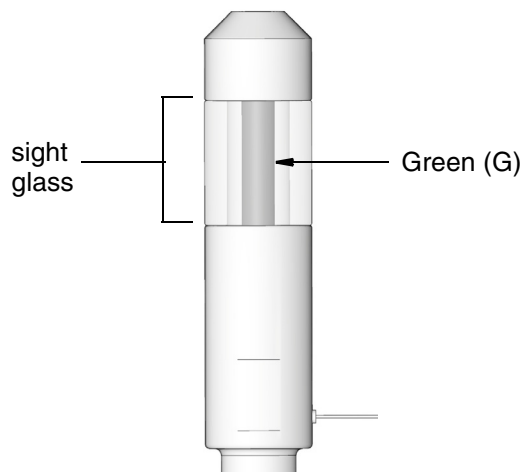

FIG. 15
Normal Level Mark (FIG. 15) - Red rod is completely covered by the green tube (G) and no red is visible in sight glass. This appearance indicates that the lubrication supply container has sufficient material. No additional lubricant needs to be added.